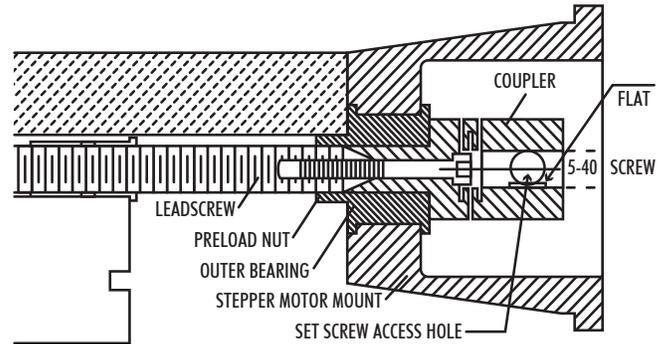

FIGURE 4—A cross-section of the stepper motor mount shows how the coupler is attached to the leadscrew.
1. Before you start, look at the cross-section view in Figure 4 and at the exploded view for the parts list. One of the most important parts of the assembly is to be sure that the preload nut is installed with the counter bore facing the bearing.
5. Using a 3/8" wrench, adjust the preload nut snugly against the end of the bearing. Tighten it enough to remove all endplay. (See Figure 4 to understand how the nut preloads the bearings.) Turn the coupling by hand to make sure it turns freely, then put a little LocTite® on the threads behind the preload nut and let capillary action draw the fluid in.